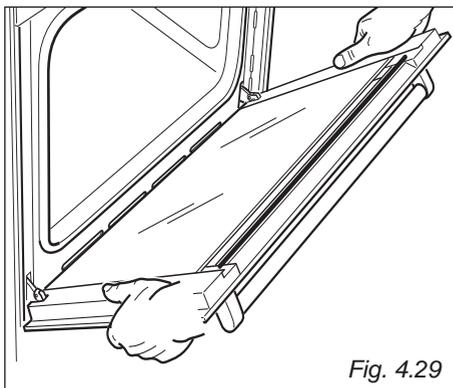

Fig. 4.29
- Hold the door as shown in fig. 4.29.